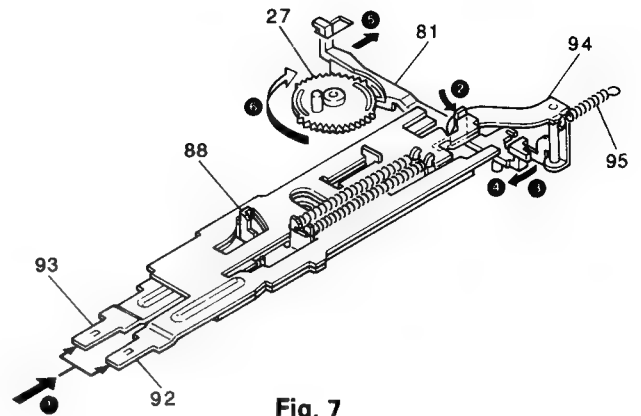

Fig. 7
1. When pressing FF/REW (92 and 93) levers at the same time ( ❶ ), the levers are placed into a slot on the PC (Play Change) plate (94) in direction of arrow ( ❷ ) in Fig.7.
2. The PC plate (94) moves in the direction of arrow ( ❸ ), trigger arm (81) is kicked in the direction of arrows ( ❹ ) and ( ❺ ), thereby releasing the turn-over gear (27).
3. The turn-over gear (27) is rotated in the direction of arrow ( ❻ ) by ED (End Detector) gear (26), which moves main plate (64).